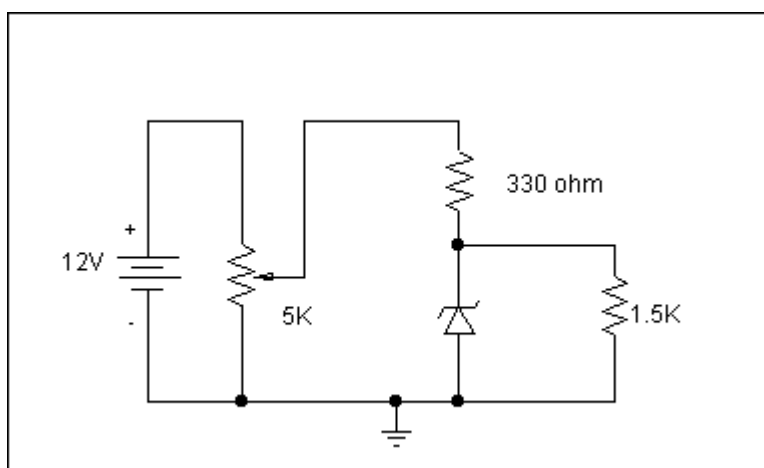

Fig. 3 Circuit for line regulation
1. Connect the circuit as shown in fig.3.